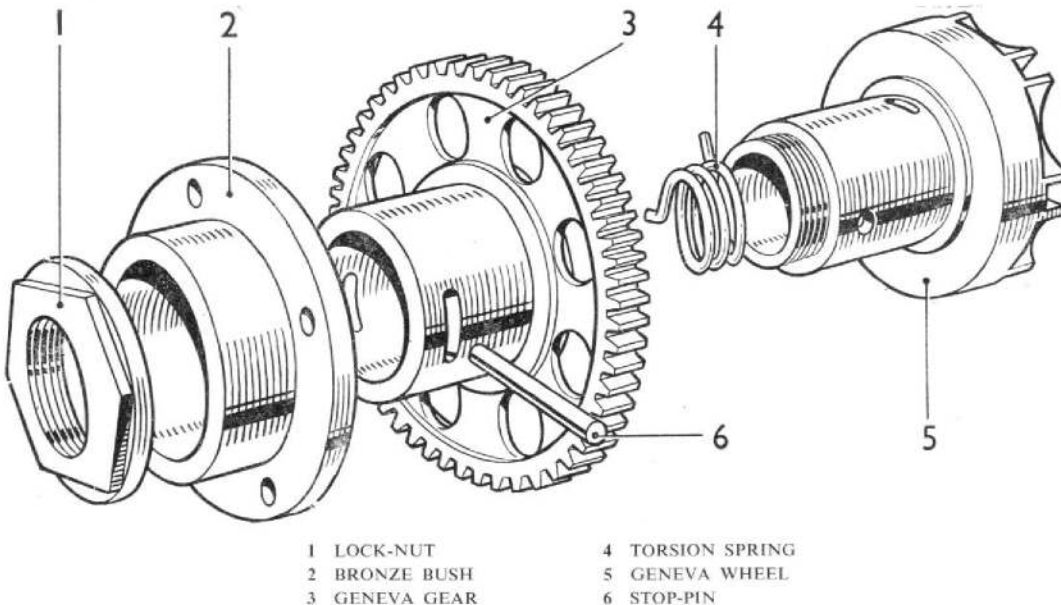

Fig. 10. Exploded view of geneva assembly
- (1) Remove the lock-nut (1, fig. 10) and lift off the bronze bush.
- (2) Remove the stop-pin from the geneva gear, separate the geneva gear and geneva wheel and remove the torsion spring from the bore of the geneva wheel spindle.